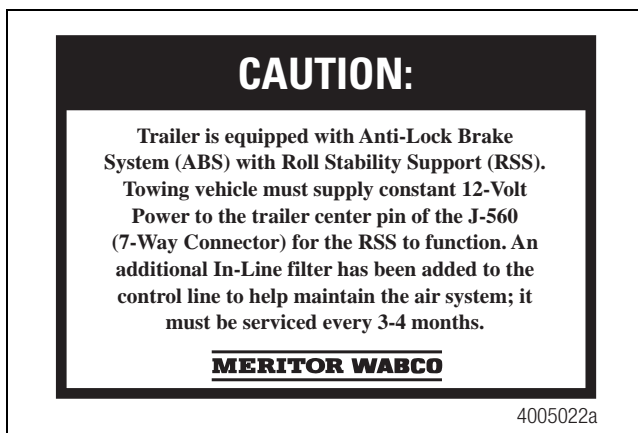

Figure 31
2. Affix the constant power label (part number 899 201 833 4) to the front of the trailer, near the seven-way connector. Figure 31.